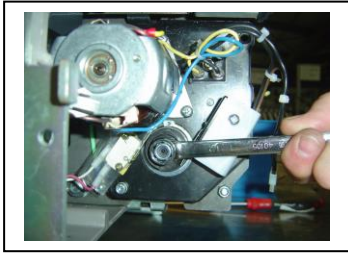

Figure 7. Assembly of Nut
9. Assemble the M8 nylock nut at the end of the camshaft and torque to 12 Nm (8.85 ft-lbs) fig .7.